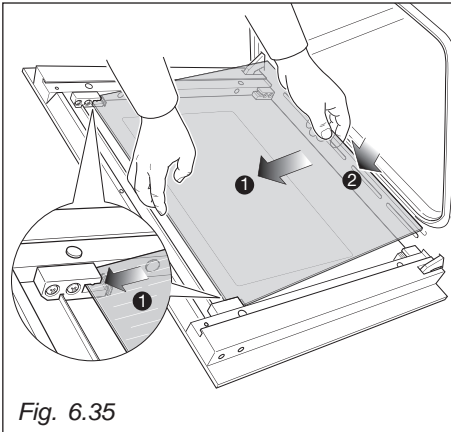

Fig. 6.35
- Gently insert the top edge of the pane into the top clamps (arrow 1 in fig. 6.35), then lower the pane and insert the bottom edge into the bottom clamps (arrow 2 in fig. 6.35); and then slide the pane into position (fig. 6.36).